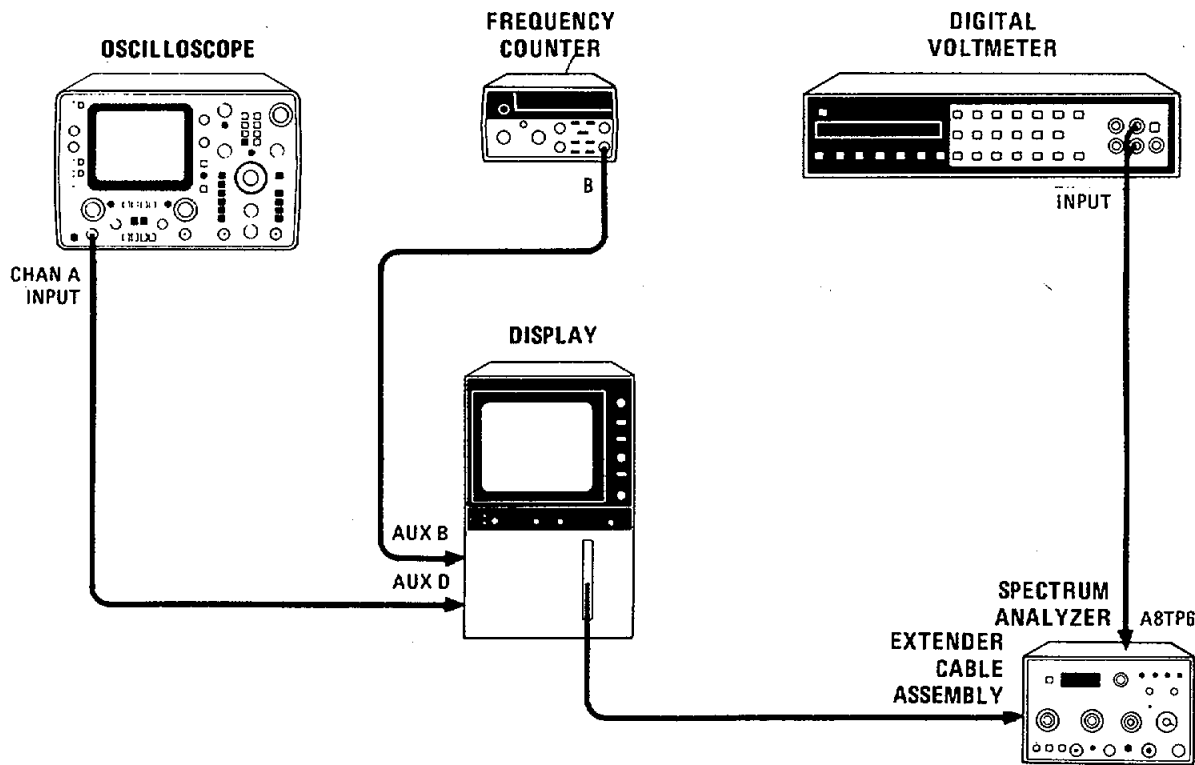

Figure 5-14. Sweep Time Per Division Adjustment Test Setup
- 2. Connect equipment as shown in Figure 5-14. Connect oscilloscope to AUX D, HORIZONTAL OUT- PUT, rear of display mainframe, or to A8TP5 of HP 8558B. Connect digital voltmeter to A8TP6 (located to the left and below A8TP4.)